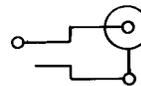

Fig. 16—342B Plug
2.15 **342B:** The 342B plug (Fig. 16) has inner and outer contacts that are coaxially arranged. The 342B plug is arranged for connections to the 724- or similar-type diameter cables and is used with 466- or similar-type jacks. The 342B plug replaces the 342A plug. The 342B plug is used in the L-Carrier Telephone System.